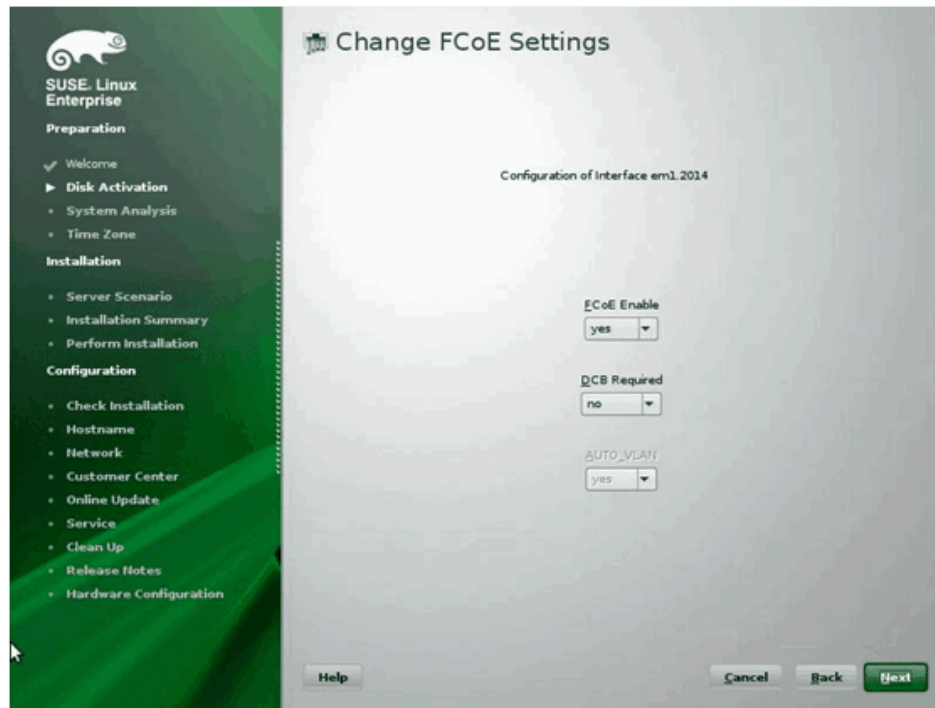

Figure 13-16. Changing FCoE Settings
- b. On the Change FCoE Settings window (Figure 13-16), ensure that **FCoE Enable** and **Auto_VLAN** are set to **yes**.